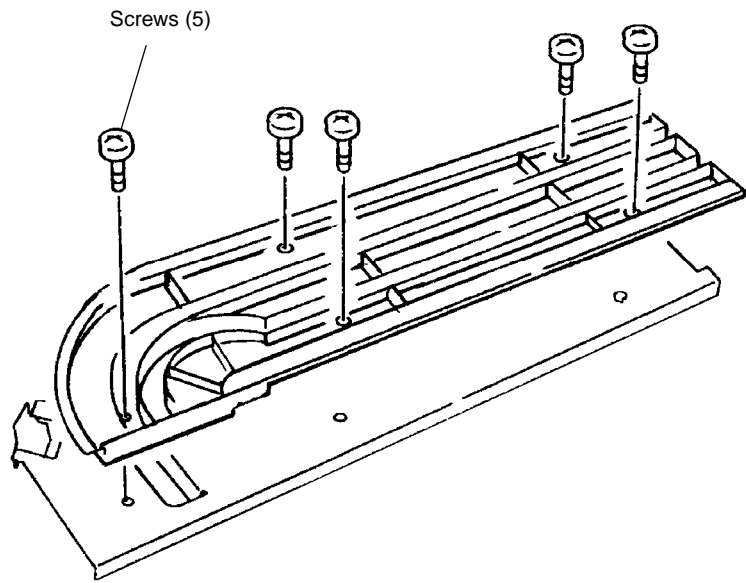

Figure 9 Removing Rail
10. Remove Screws (5) and remove Rail (Figure 9).